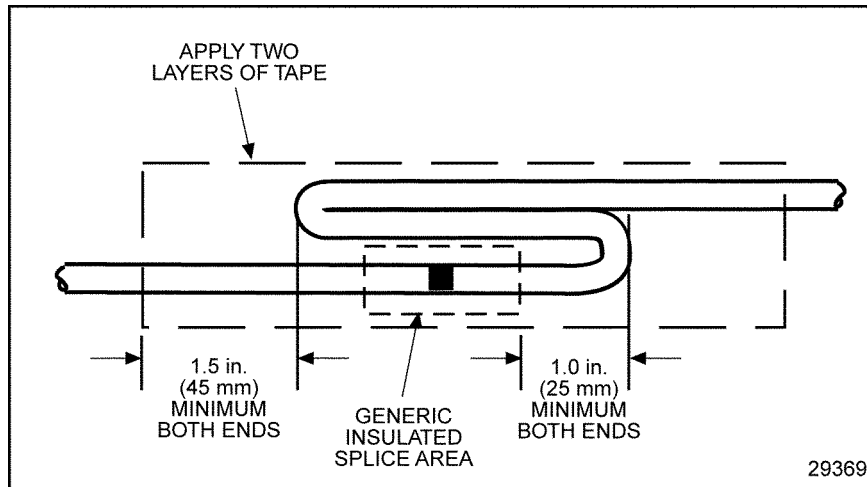

Figure 17-16 Recommended Strain Relief of Spliced Joint
5. Loop the lead back over the spliced joint and tape. See Figure 17-16.
8. Loop the lead back over the spliced joint and tape. See Figure 17-16.
9. Loop the lead back over the spliced joint and tape. See Figure 17-16.